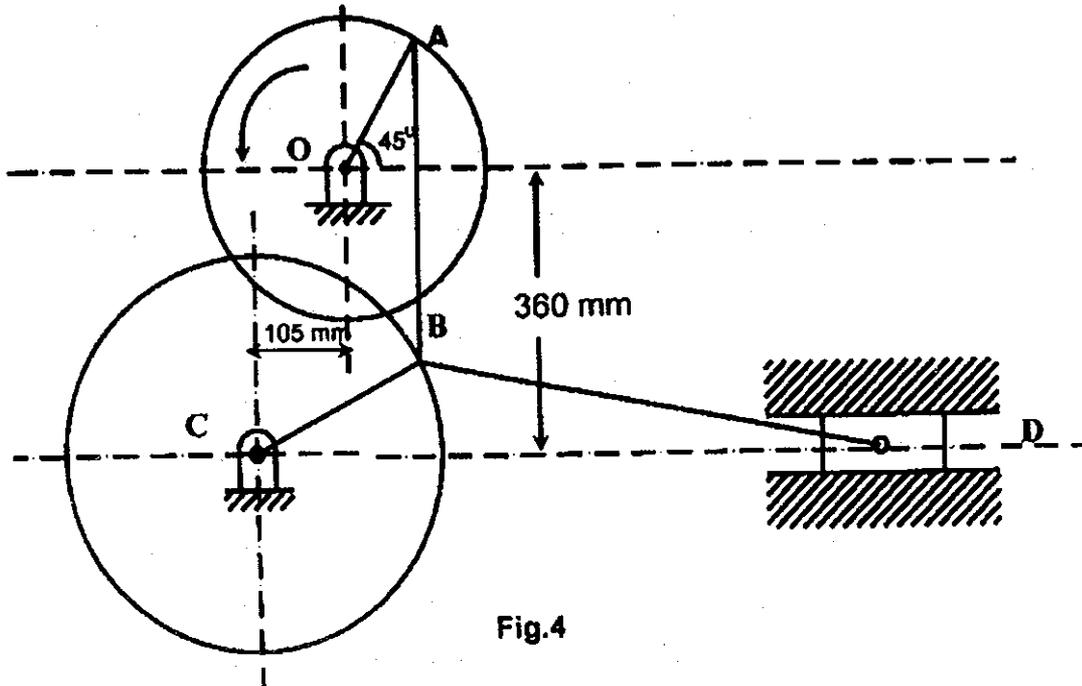

Fig.4
- (1) Double crank mechanism
- (2) Double lever mechanism
- (3) Crank rocker mechanism
- (4) Why a double-rocker mechanism cannot be constructed using the above four links? (8)
- (ii) Sketch Whitworth and Crank and slotted lever quick return mechanisms and compare them. (8)
12. (a) In the toggle mechanism, as shown in the Fig. 4, the slider D is constrained to move on a horizontal path. The crank OA is rotating in the counter-clockwise direction at a speed of 180 rpm.